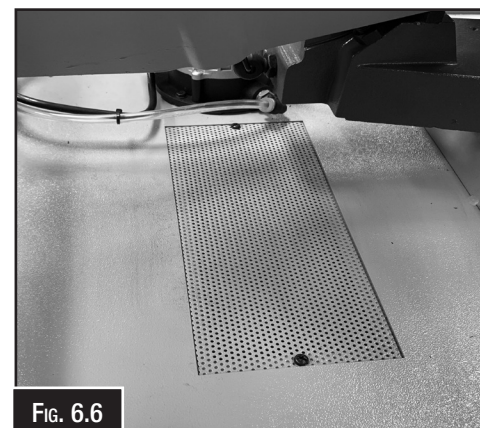

FIG. 6.6
3. Once the coolant is empty remove the two screws that secure the screen on the top of the reservoir, and remove the screen. (Fig. 6.6)